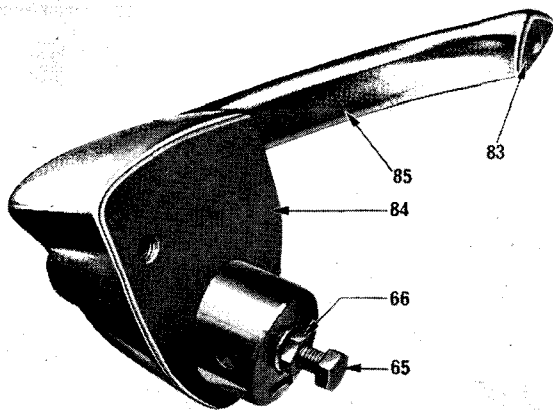

Fig. 48. Exterior handle details
T. Adjustment to the Exterior Door Handle Push Button (Fig. 48)
2. Slacken the locknut (66) and adjust the bolt (65) to give a clearance of $\frac{1}{16}$ " between the bolt head and lock lever. Retighten the locknut.